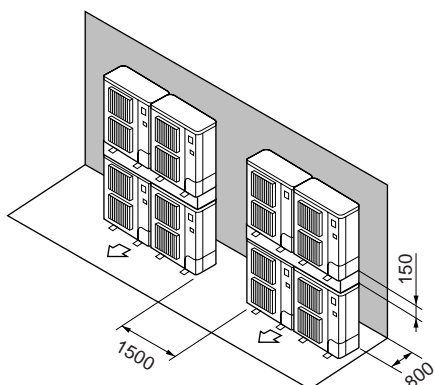

Fig.2-16
- Stacked unit arrangement (Fig. 2-16)